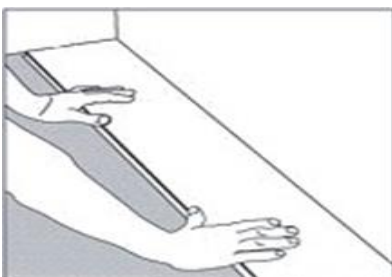

Figure1
1. Starting from the left with the tongue facing the wall, carefully place the first board in place. (Figure1)